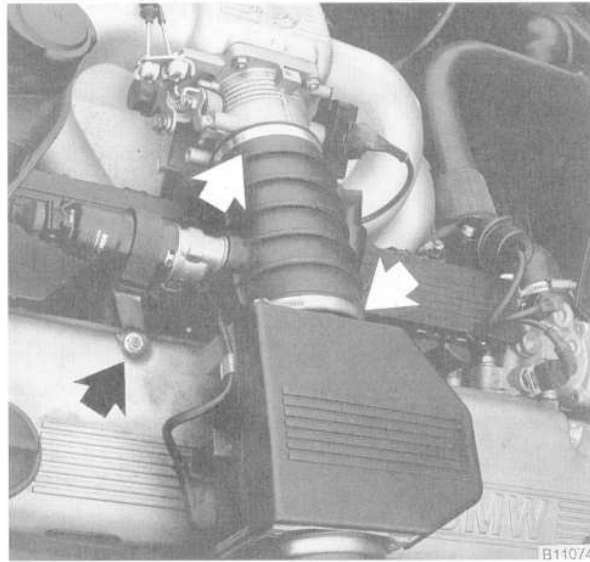

Fig. 19. Disconnect hose clamps and remove idle air control valve mounting bracket (arrows) to remove intake air boot.
2. Remove the large intake boot between the volume air flow sensor and the throttle housing. See Fig. 19.